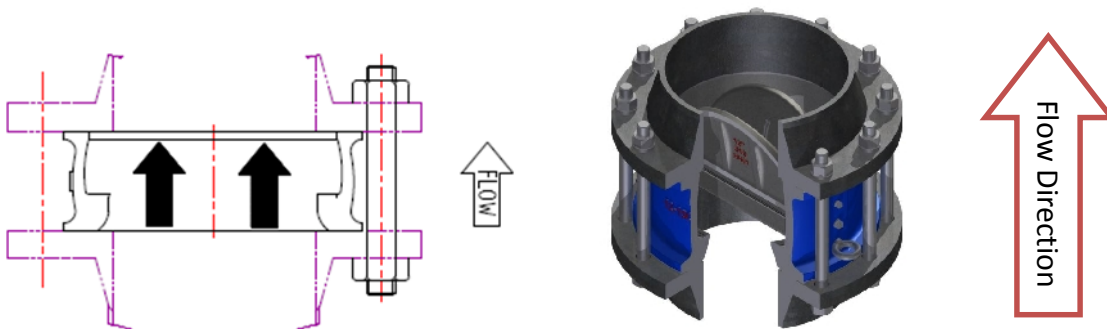

Figure 3
Step 3. Lay pipes so that the cast direction of the **Top Check**'s body corresponds with the flow direction (figure 3).